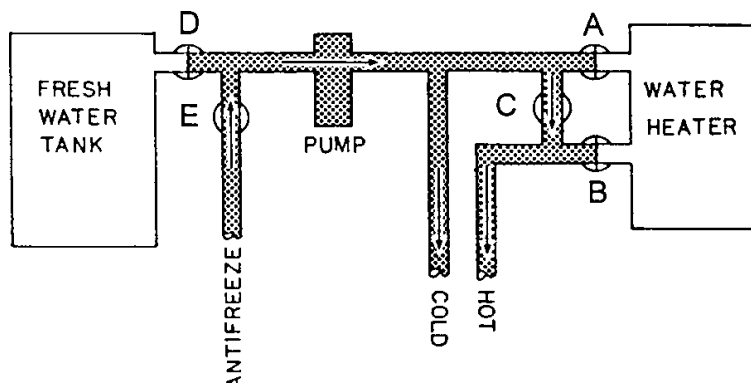

Fig. 4-14
2. Close valves A, B and D. Open valves E and C. (Fig. 4-14)